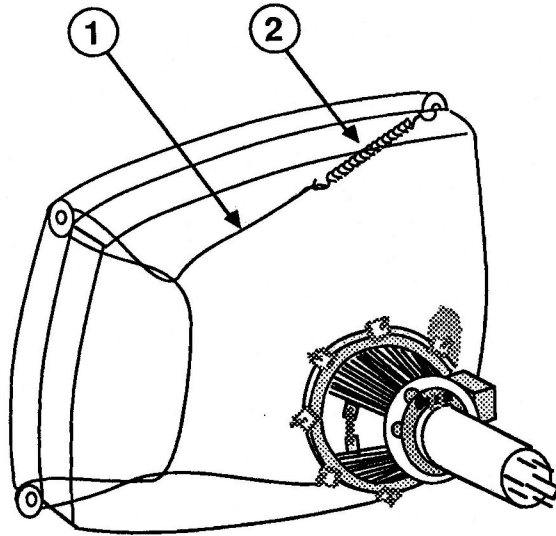

**FIGURE 17**
11. Locate the degaussing coil (Figure 17, #1). It is braced to the CRT by plastic-coated holding tabs at each corner.
**NOTE:** For clarity, Figure 17 shows the CRT and degaussing coil without the surrounding chassis frame, which is still in place in this step.
14. Use a long Phillips screwdriver or a 5/16 nut driver to remove the four CRT mounting screws (Figure 17, #2). Remove the large washers.